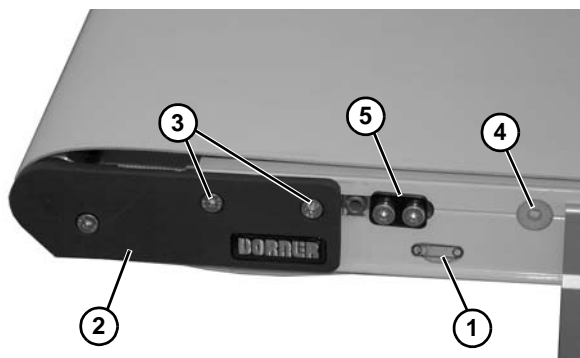

Figure 46
1. On tension end of the conveyor, identified with a  label (**Figure 46, item 1**), adjust head plate assembly (**Figure 46, item 2**): On both sides of conveyor, loosen fastening screws (**Figure 46, item 3**) and rotate pinion gear (**Figure 46, item 4**) to adjust head plate assembly.
2. Adjust head plate assembly so end of conveyor frame aligns with first tensioning mark (**Figure 47, item 1**). Tighten fastening screws (**Figure 46, item 2**) on both sides of conveyor to 60 in-lb (7 Nm).
3. If equipped with cam tracking assemblies (**Figure 46, item 1**), reposition against head plates and adjust belt tracking. Refer to "Conveyor Belt Tracking", page 20.